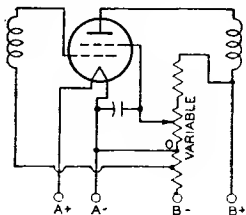

Fig. 88
The positive voltage for the screen grid (grid No.2) of screen-grid tubes may be obtained from a tap on a voltage divider, from a potentiometer, or from a series resistor connected to a high-voltage source, depending on the particular tube type and its application. The screen-grid voltage for tetrodes should be obtained from a voltage divider or a potentiometer rather than through a series resistor from a high-voltage source because of the characteristic screen-grid current variations of tetrodes. Fig. 88 shows a tetrode with its screen-grid voltage obtained from a potentiometer.
**Screen-grid voltage variation** for the rf amplifier stages has sometimes been used for volume control in older-type receivers. Reduced screen-grid voltage lowers the transconductance of the tube and results in reduced gain per stage. The voltage variation is obtained by means of a potentiometer shunted across the screen-grid voltage supply. (See Fig. 88.) When the screen-grid voltage is varied, it must never exceed the rating of the tube. This requirement can be met by providing a fixed stop on the potentiometer.